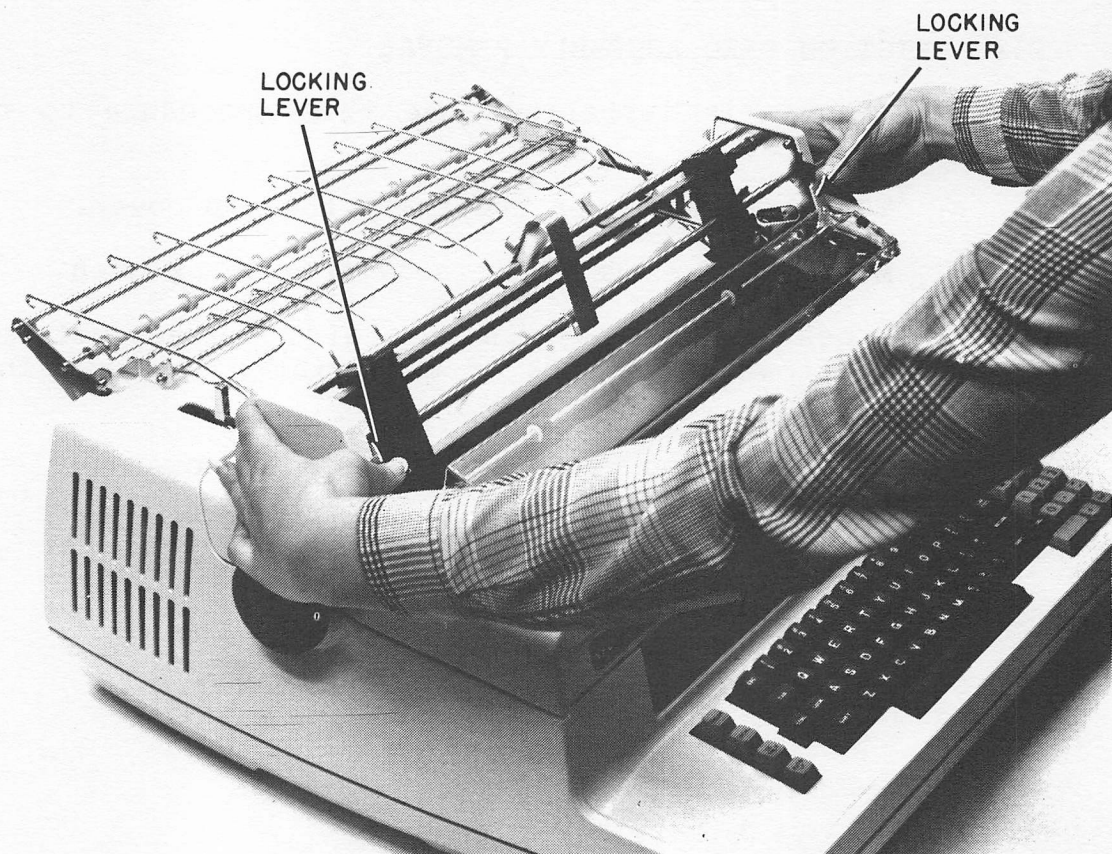

Figure 2-5 Forms Tractor Assembly Removal
- c. Press the locking levers and raise the assembly upward to remove it (see Figure 2-5).